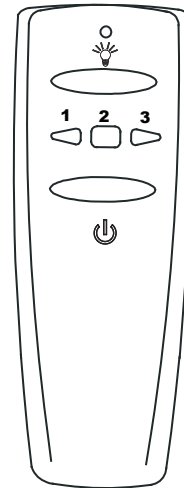

Fig. 16
A. 1, 2 and 3 buttons: (Fig. 16)